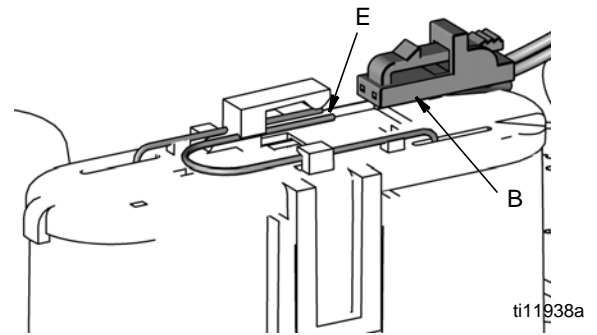

FIG. 8
- Reconnect lead to battery by carefully sliding connector over battery terminals (E) until it snaps securely into place (B) (FIG. 8).